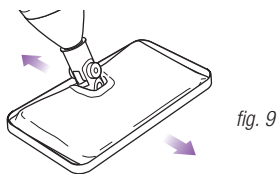

fig. 9
- 2 Move the Steam Mop back and forth across a section of the carpet. **(fig. 9)**